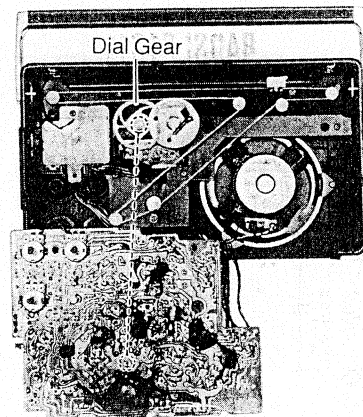

Fig. 6
- ※ 2. Insert the Tuning capacitor shaft in the hole of dial gear as shown in fig. 6.